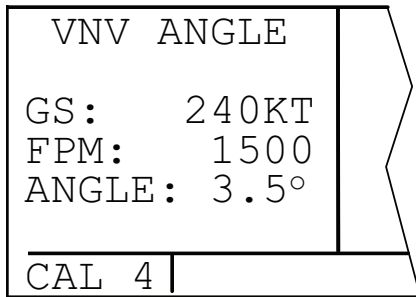

Figure 3D-99. CAL 4 Page
d. **The Calculator 4 page.** The CAL 4 page is used to determine vertical navigation descent/ascent angles to use on the NAV 4 page. Refer to Figure 3D-99.